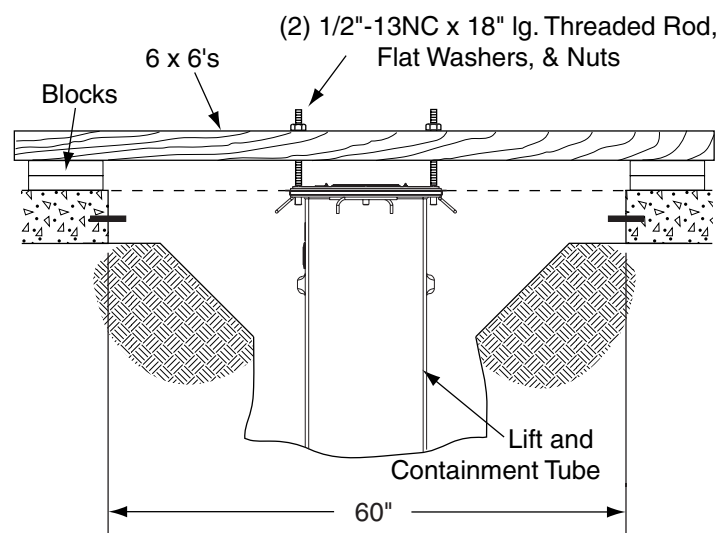

Fig. 4
**C.** Remove and retain (4) 1/2"-13NC HHCS (marked with **X**, Fig. 3). Insert 1/2" Threaded Rods x 18" lg. into the holes and secure in place using 1/2" flat washers and nuts, Fig. 4.
**D.** Attach 6 x 6's to support unit on existing floor and secure in place with 1/2" flat washers and nuts, Fig. 4. Remove shipping straps and install guide barrel bolts in open holes and torque to 60 ft-lbs. Remove protective covers from top of jacks.